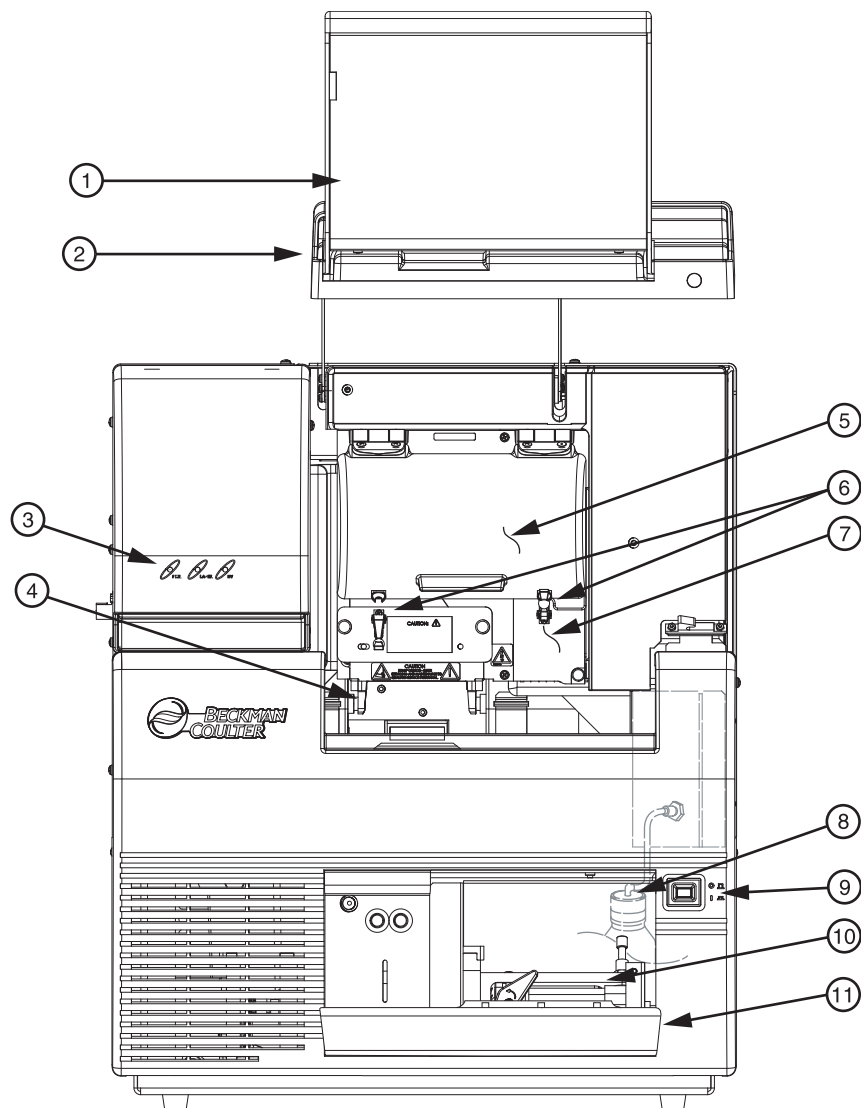

Figure 9.1 User Accessible Hardware Components
NOTE Use Figure 9.1 to locate hardware components referenced in this section.
3. Open the sample access cover (Figure 9.1) and lift it to the vertical locking position.
5. Open the sample access cover (Figure 9.1) and lift to the vertical locking position.
4. Open the sample access cover (Figure 9.1) and lift to the vertical locking position.